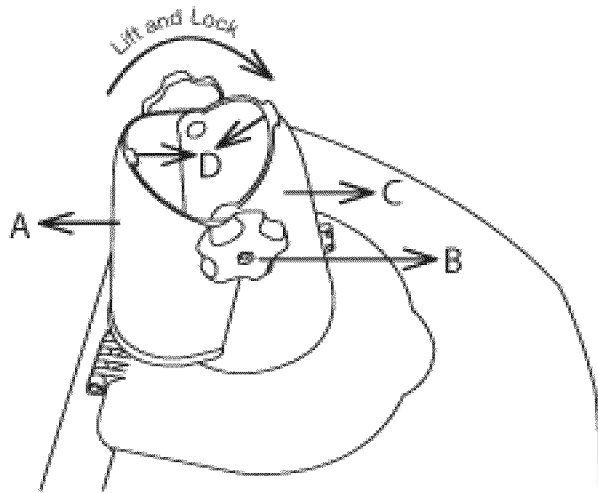

Figure 10
1. Lift the chute deflector so that it snaps and locks securely onto the discharge chute (Figs. 10 and 11).